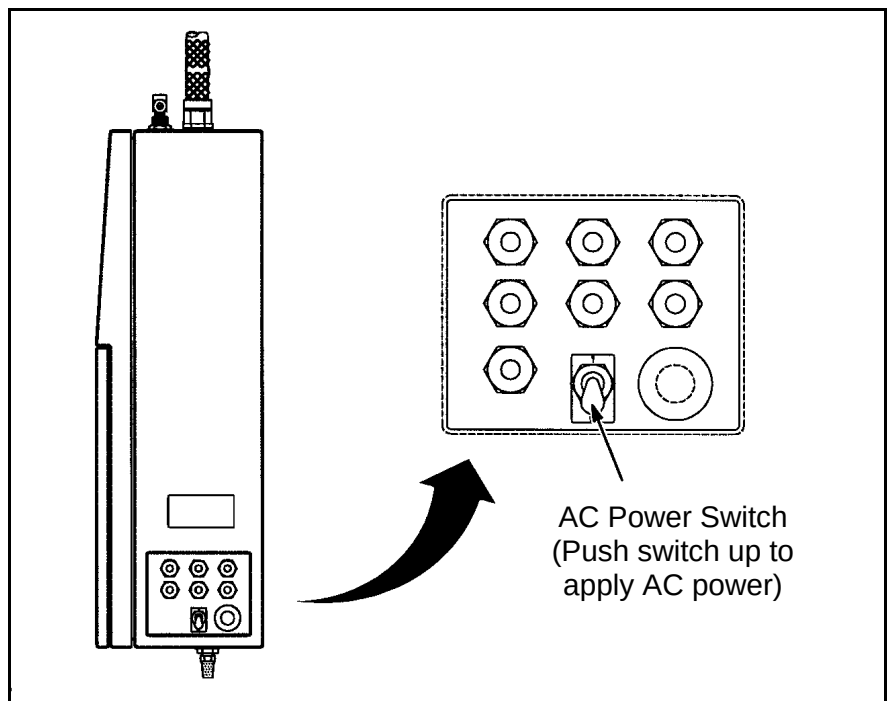

Figure 4-2. Main AC Power Switch
1. Turn the main AC power switch On. The AC power switch is located on the side of the printer. (Refer to Figure 4-2 for the location of the main AC power switch.)